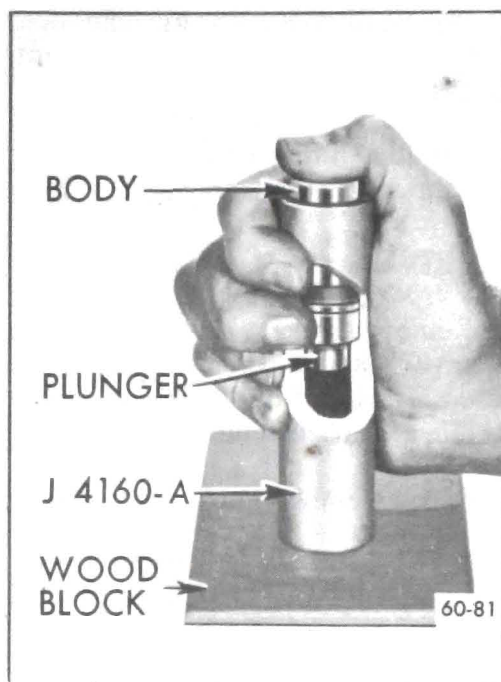

Figure 60-222 - Removing Stuck Plunger
6. If a plunger sticks in lifter body, place lifter in large end of Plunger Remover J-4160-A with plunger inward. While holding lifter with thumb, rap the open end of remover against a block of wood with just enough force to jar the plunger from body. See Figure 60-222.